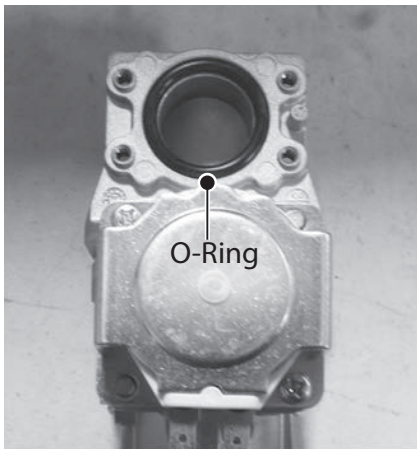

Figure 92 - O-ring replacement (one O-ring)
- 21** Locate the new gas valve and gas valve O-rings (3x) provided in the kit. Install one new O-ring to gas valve as shown in Figure 92.